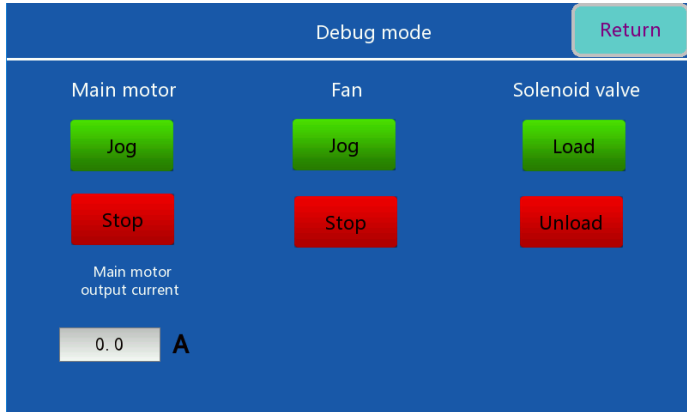

Figure 4-9 Debug mode interface
Step 4 On the system configuration interface, click **Debug Mode**. The interface shown in Figure 4-9 is displayed.